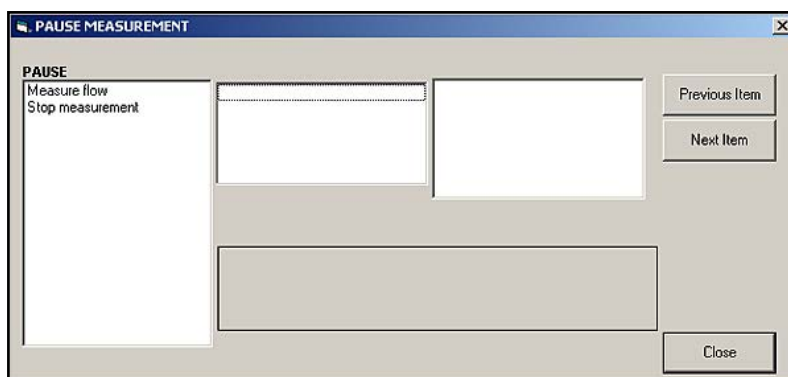

Figure 22: The pause measurement window
2. Expand the *Edit Functions* option, and double-click on the *Pause Measurement* entry to open a window similar to Figure 22 below.